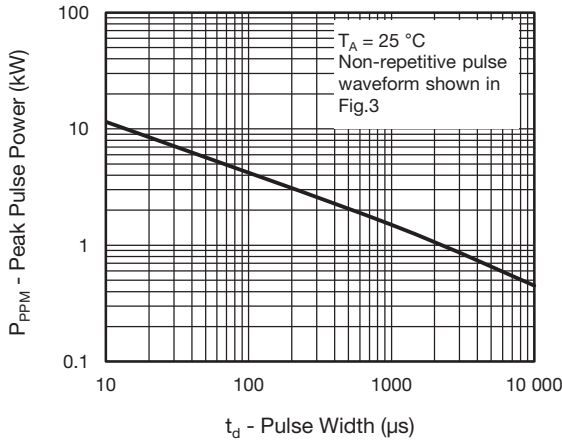

Fig. 1 - Peak Pulse Power Rating Curve
- Fig.1 power calculation is based on  $I_{PPM}$ , times defined maximum clamping voltage by pulse width.